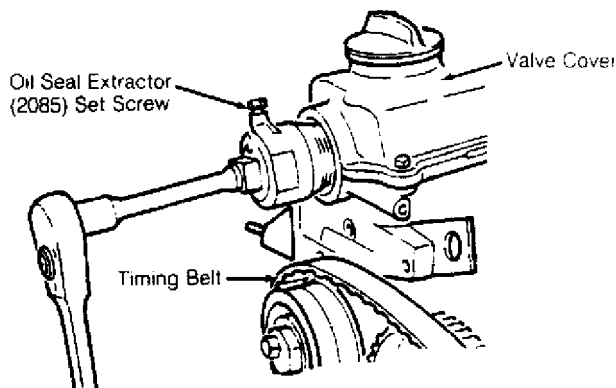

Fig. 11: Removing Camshaft Oil Seal
2) Rotate inner part of Oil Seal Extractor (2085) outward 2 turns and tighten set screw. See Fig. 11. Lubricate threaded area of extractor and push in as far as possible. Loosen set screw and turn inner part of extractor until oil seal is removed.